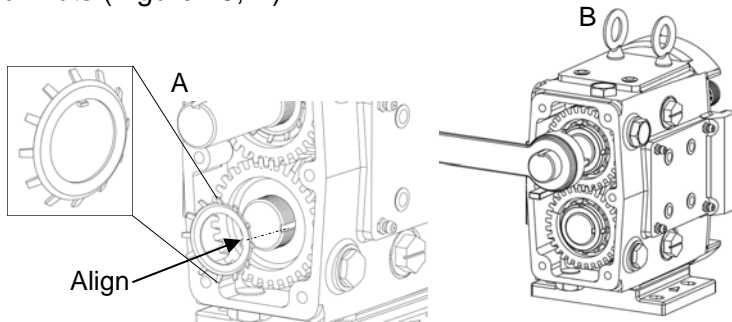

Figure 45: Installing Lock Washer and Lock Nut
9) Install the lock washers on the shaft by aligning the tab inside the lock washer with the slot in the shaft (Figure 45, A). Lubricate the threads of the lock nuts and thread them on the shafts. Using a spanner wrench, tighten them to the specified torque in Table 6. Use a wedge (wood or plastic) between the gear teeth to keep the shafts from turning while tightening the lock nuts (Figure 45, B).